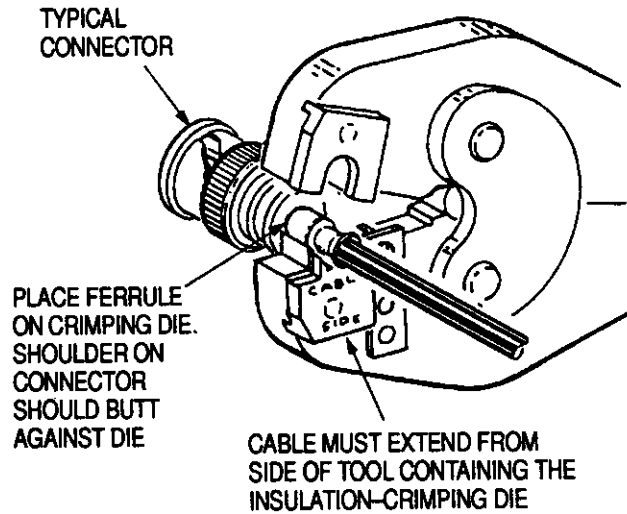

Figure 5
3. Position the connector assembly in the tool, as shown in Figure 5.